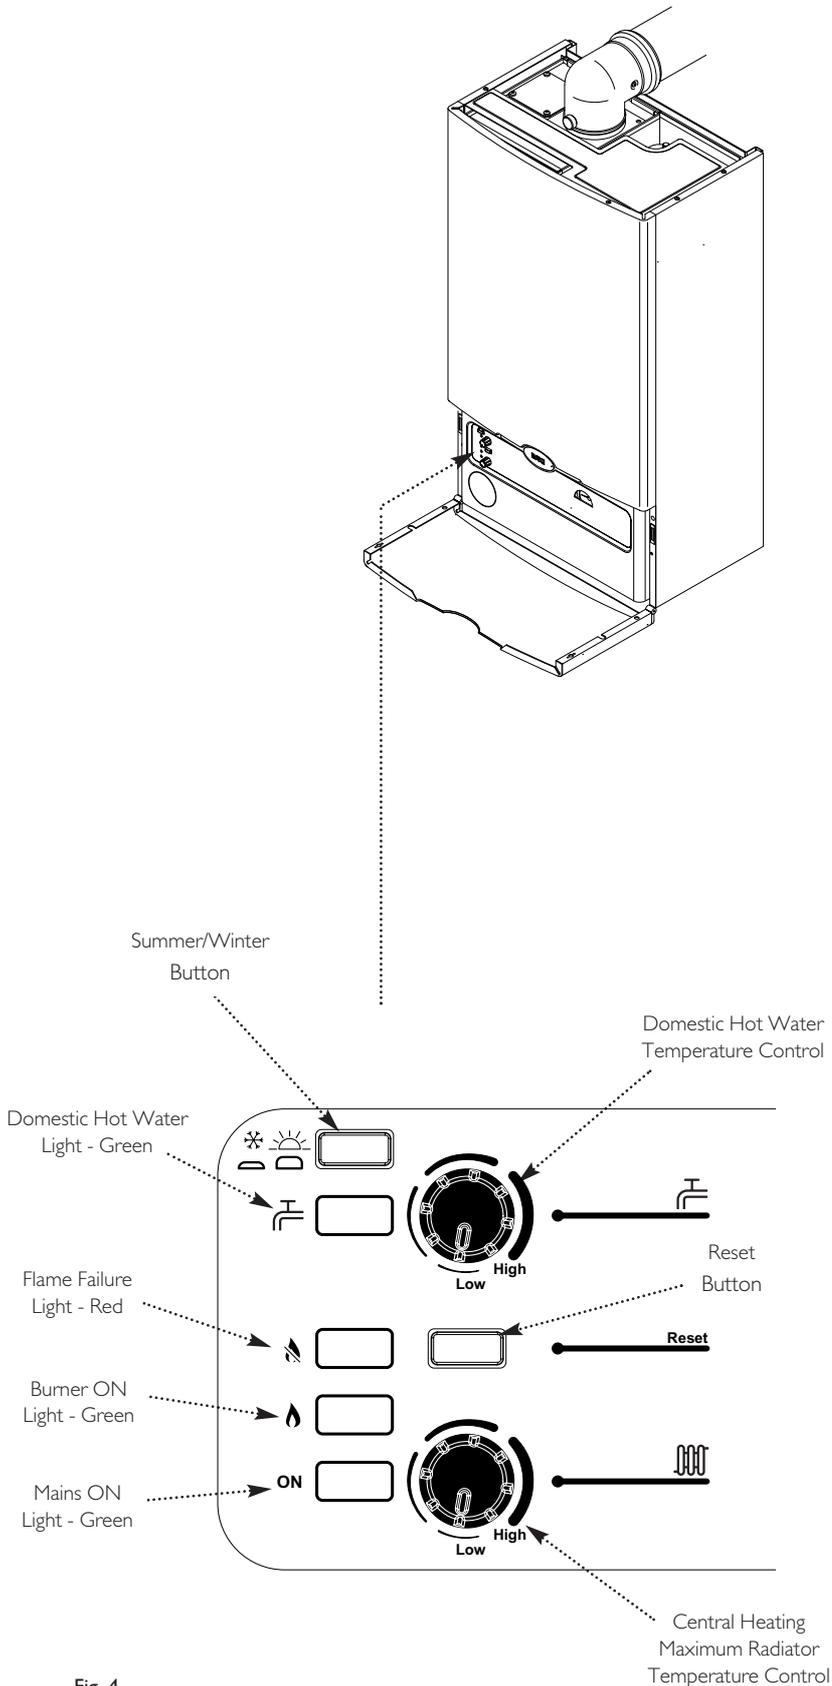

Fig. 4
2. The flame failure light (  ) will be either flashing or permanently illuminated and the boiler will need resetting (Fig. 4).
### 4.2 Resetting (Fig. 4)